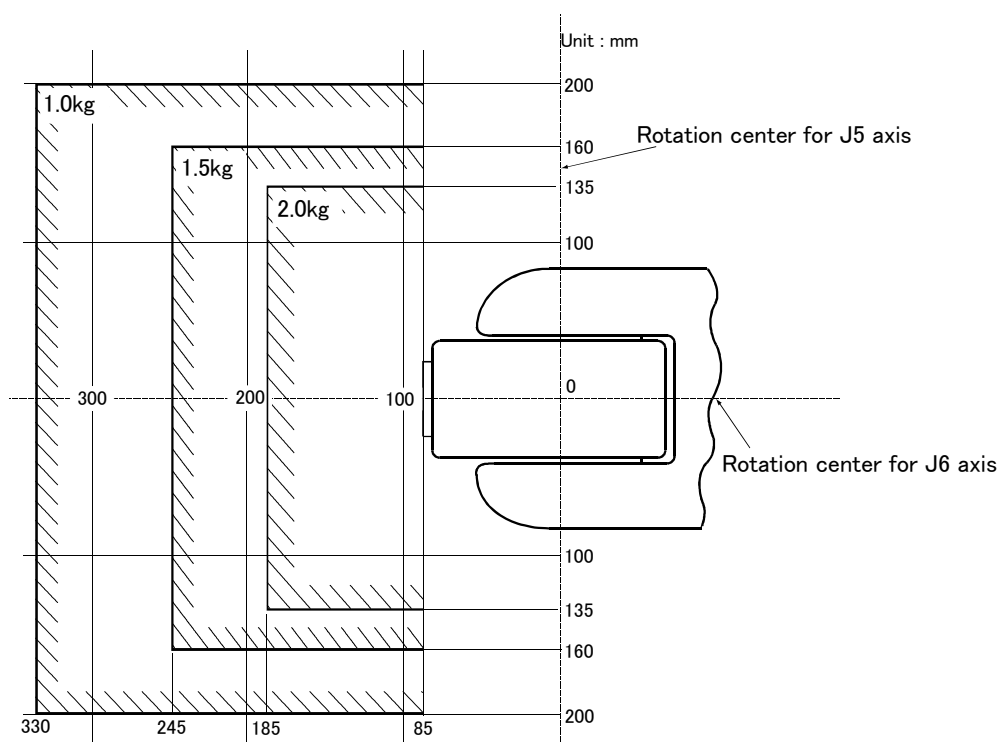
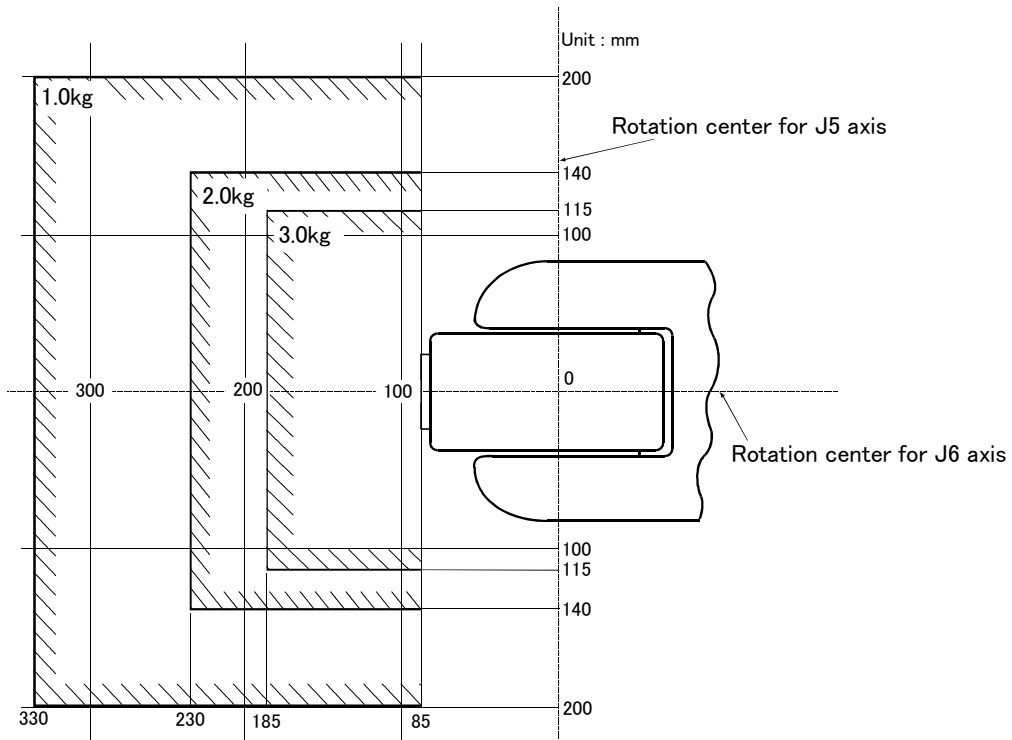

Fig.2-2 : Position of center of gravity for loads (for loads with comparatively small volume) : RV-2A/2AM/2AC-S*
Fig.2-3 : Position of center of gravity for loads(for loads with comparatively small volume): RV-3AJ/3AJM/3AJC-S*
- (1) The tooling should have the value less or equal than the smaller of the tolerable inertia and the tolerable moment found in Page 5, "Table 2-1 : Standard specifications of robot arm".
- (2) Fig. 2-2 and Fig. 2-3 shows the distribution dimensions for the center of gravity in the case where the volume of the load is relatively small. Use this figure as a reference when designing the tooling.
- (3) When the load is not mass, but force, you should design the tooling so that it does not exceed the value for allowable moment described in Page 5, "Table 2-1 : Standard specifications of robot arm".